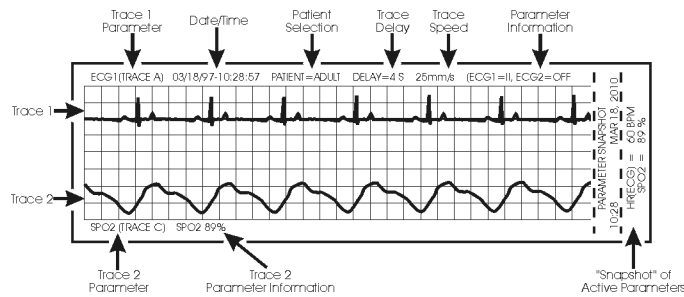

Figure 5-2. Sample Strip Chart
5.3.1 Strip Chart Record. (See Figure 5-2) The Strip Chart may be configured to contain one or two parameter waveforms and also contains the numerical value of every active parameter as well as a “Parameter Snapshot” of the current values of every active parameter at the end of the printout strip.